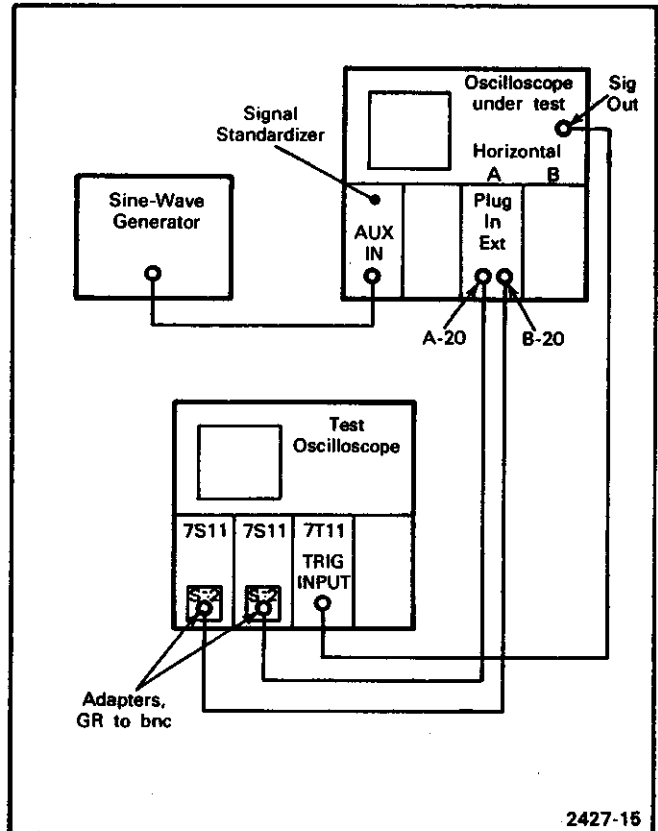

Figure 2-3. Test setup to check frequency response of trigger channel.
*When using Tektronix 7S11s and a 7T11 in a four-hole oscilloscope, put the 7T11 in the left (A) horizontal plug-in compartment.*
7. Connect the output of the leveled sine-wave generator to the AUX IN connector on the Signal Standardizer with a 50 Ω coaxial cable. Figure 2-3 shows the connections.
10. Connect the Sig Out connector of the oscilloscope being tested to the Trig Input connector of the 7T11 with a 50 Ω coaxial cable. Figure 2-3 shows this connection.